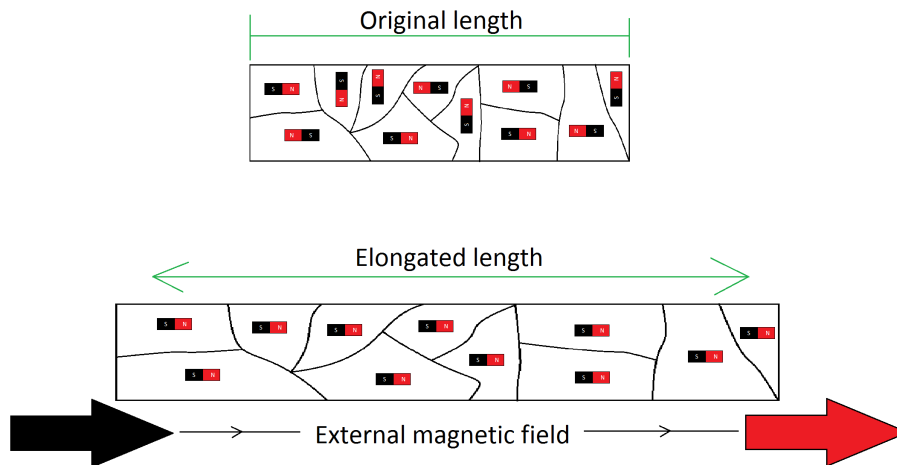

Figure 10: Magnetostriction Causing Elongation
-Magnetostriction is the change in size of a ferromagnetic material due to magnetism. The external magnetic field aligns all of the molecular dipoles and domains inside the ferromagnetic material with the field; this causes the metal to elongate, shown below in Figure 10, with exaggerated extension for instructional purposes. The opposite is also true, when a metal undergoes stress and contracts it will change the metals magnetic susceptibility, this is called the Villari effect.